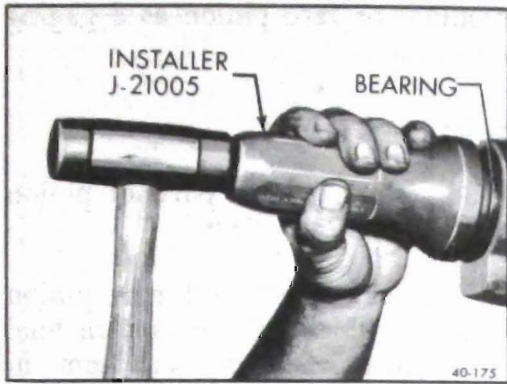

Figure 40-145 Installing Front Pinion Bearing
5. Place front pinion bearing in position on pinion. Hold pinion fully forward and lightly drive bearing over pinion until seated. Use Installer J-21005. See Figure 40-145.